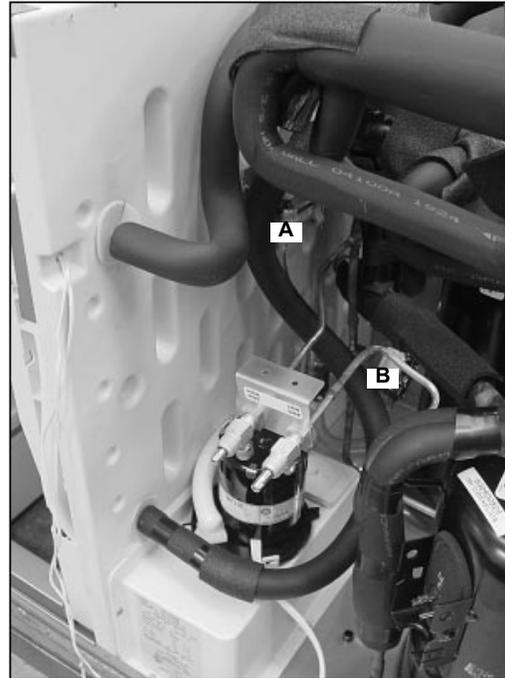

Figure 54.
57. Connect the water fill valve harness (A) (black and white leads) and the water dump valve harness (B) (yellow and white leads) (Figure 54).